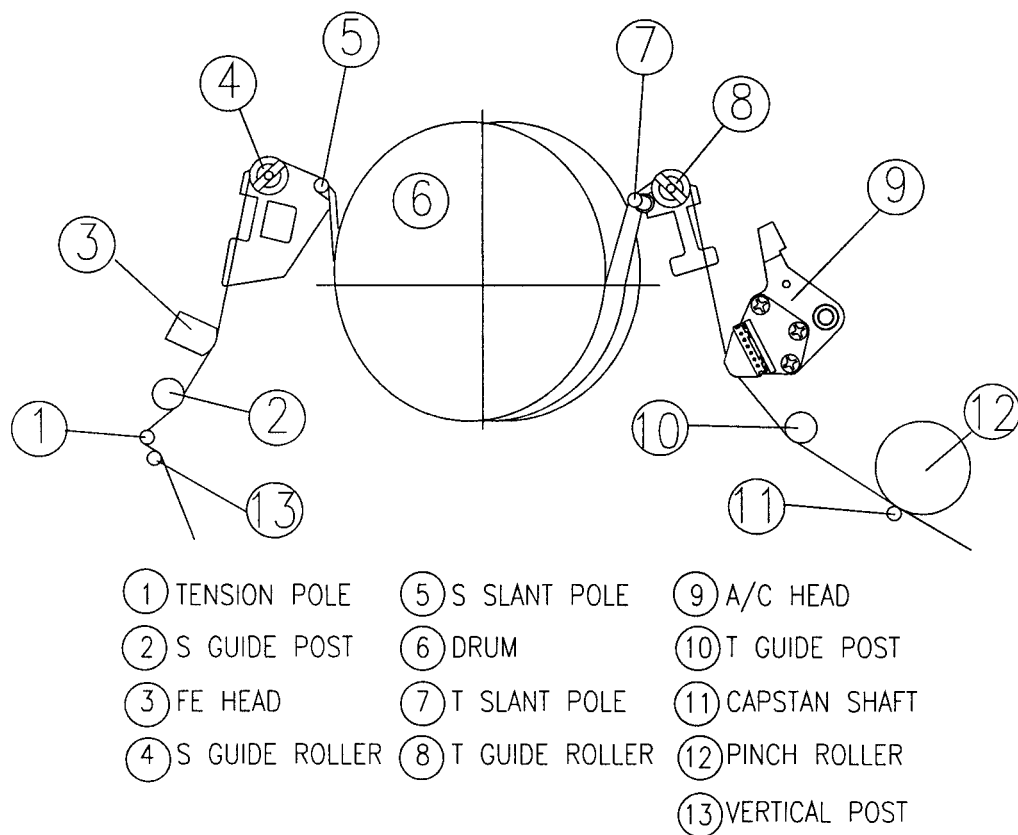

Fig. 5-1 THE SCHEMATIC DIAGRAM OF TAPE TRANSPORTING SYSTEM
When the parts as shown in Fig. 5-1 are replaced, the TAPE TRANSPORTING SYSTEM has changed. To prevent this, it is essential to know thoroughly and observe the following INSTRUCTIONS.
- Play back a T-120 Tape and check the running condition of the TAPE at the lower flanges of the T GUIDE POST ASS'Y as in Fig. 5-1.